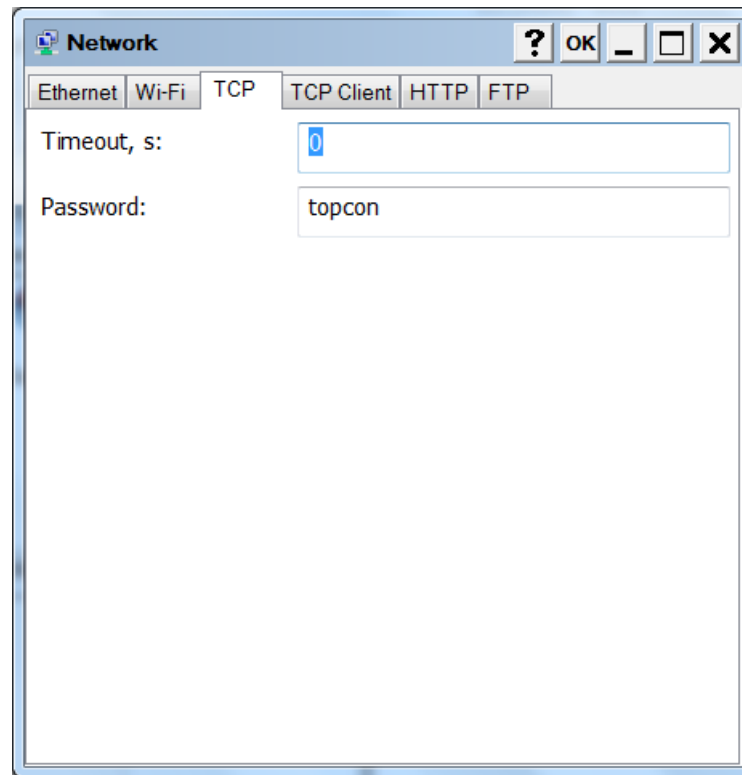

Figure 22: Network – TCP Tab
2. Click **Receiver Settings** ▶ **Network**. The **Network** screen appears (Figure 22).